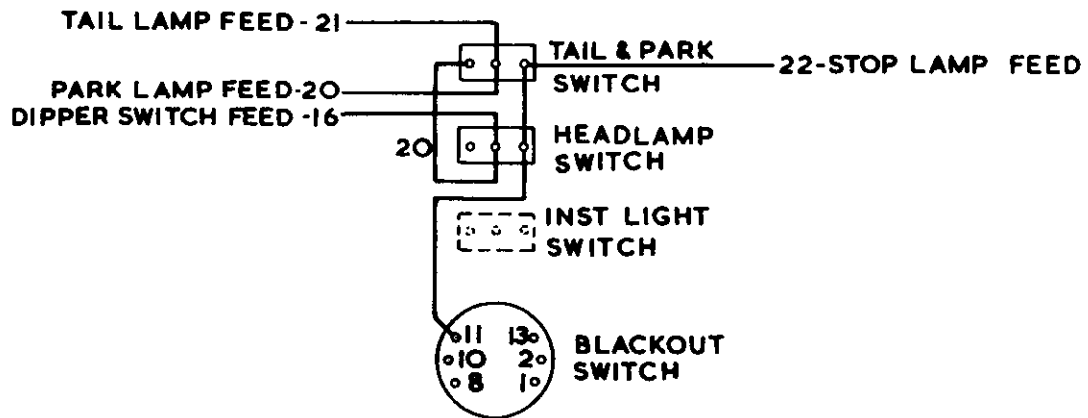

FIG 1 - HEAD, TAIL AND PARK LIGHT CIRCUIT
- a. Remove the existing headlight switch and replace with item 1 (para 6).
- b. Rewire the light circuits as per fig 1.